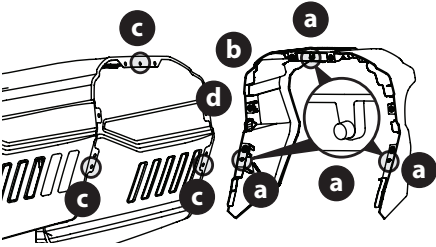

Figure 5
There are three (3) alignment posts (a) on the hood collar (b) that line up with corresponding alignment holes (c) in the hood (d) (Figure 5).